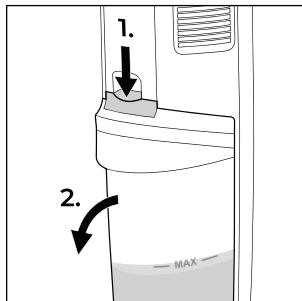

Fig. 20
- Empty the waste water tank ② after every use.
- Clean the dirt filter ⑩ after each use and let it dry completely before putting it back into the waste water tank ②.
- Empty the waste water tank **②** after every use and as soon as the dirty water has reached the MAX marking.
- When emptying the waste water tank **②** make sure that the drain (e.g. the wash basin) is not blocked by hair or coarse dirt.
- Once the waste water tank **②** is full, the float **⑧** causes the suction motor to switch off automatically.
- ◆ Proceed as follows to empty the waste water tank **②**:
1. Press the knob at the top of the waste water tank **②** downwards (see fig. 20). Hold the handle of the waste water tank **②** while pressing the knob downwards.
2. Pull the waste water tank **②** forwards out of the appliance (see fig. 20).